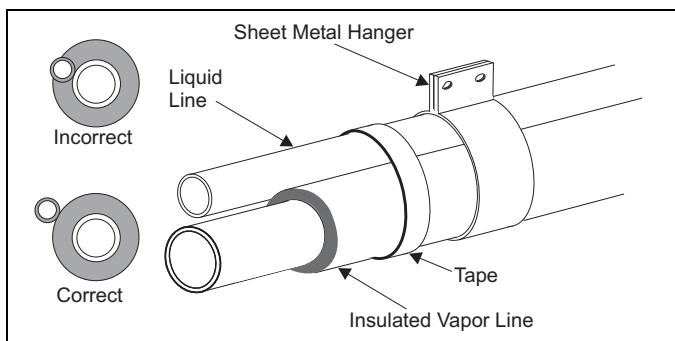

FIGURE 4: Installation of Vapor Line
- d. Liquid lines should not be in bare contact with suction line. See Figure 4.